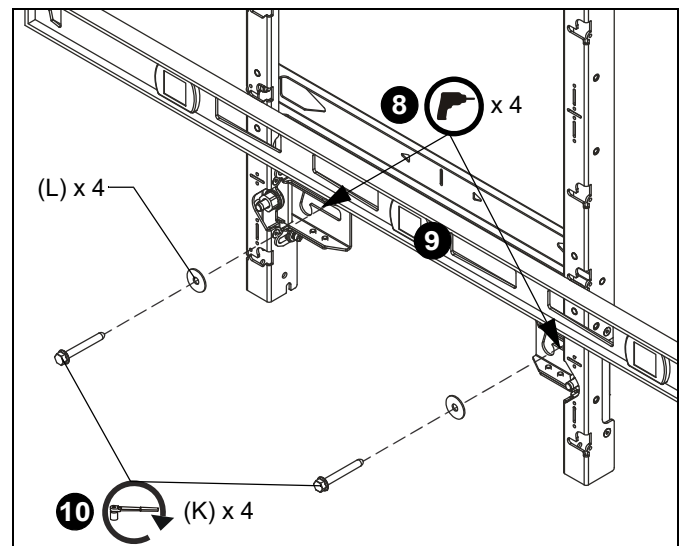

Figure 23
8. Drill pilot holes in centerline of each mounting slot on each leveling foot of the added mount (see Table 1 for size) and follow fastener information (appropriate for wall type) located in Table 1. (See Figure 23)
9. Double check the level of the mount at the bottom of the teardrop slots, and make sure the new mount stays perfectly aligned with the upper or lower mount to which it was attached. (See Figure 23)
10. Fully tighten the 5/16 x 2-1/2" lag screws (K) through the 5/16" fender washers (L). (See Figure 23)